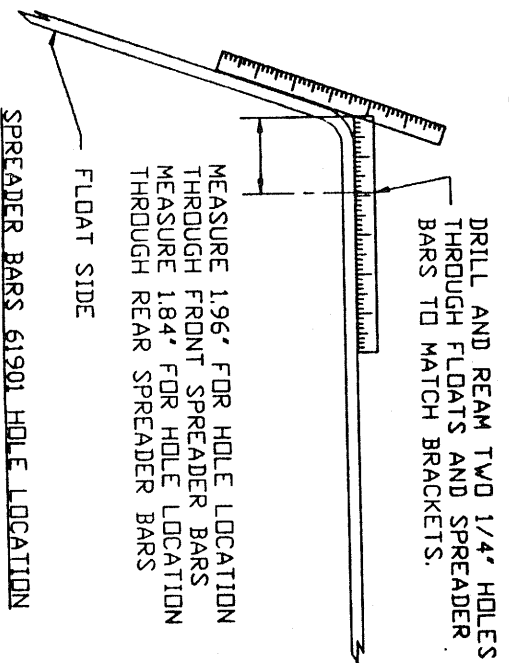

Figure. 1
STEP (2): Mark on the float deck with a felt tip pen the centerline of the bolts that will attach the bottom mounting brackets. To do this, hold a straightedge upright against the side of the float across the spreader bar slot. Set your ruler flat on top of the float and measure from the straightedge. The center of the bolts for the front brackets should be 1.96 inches from the straightedge. Mark the centerline for the rear bracket bolts at 1.84 inches. See Fig. 1.